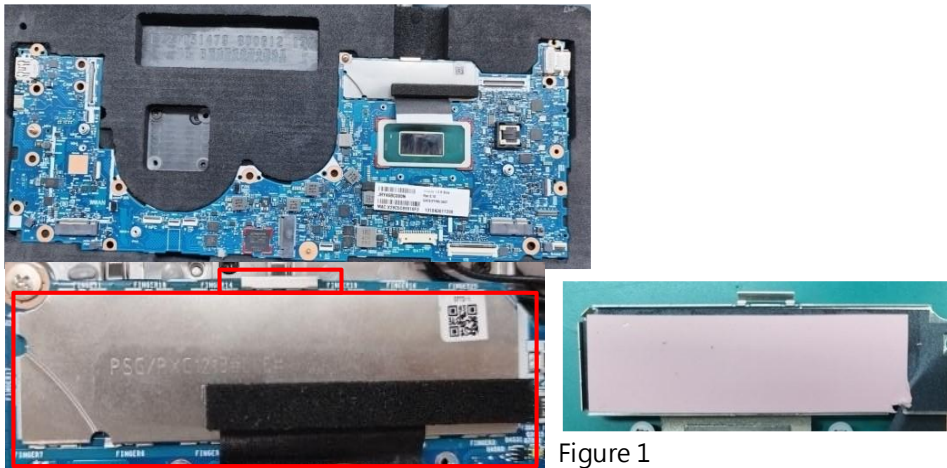

Figure 1
1. Disassemble DDR Shielding Can · and remove pad (Fig1)